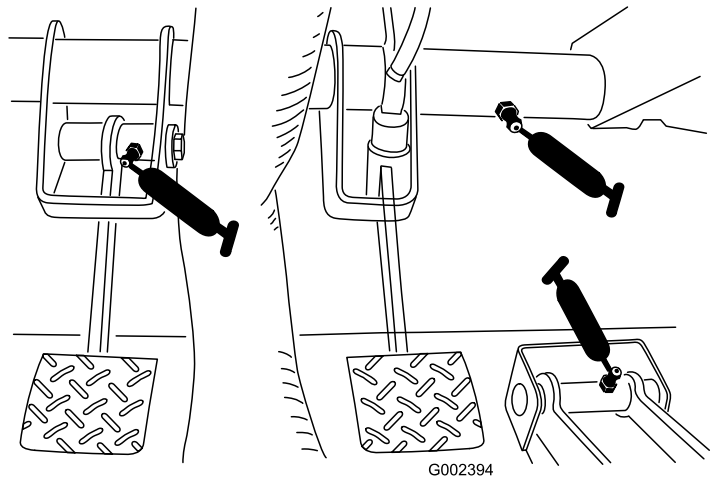

Figure 31
- Clutch (1), accelerator (1), brake (qty. 1) (Figure 31)